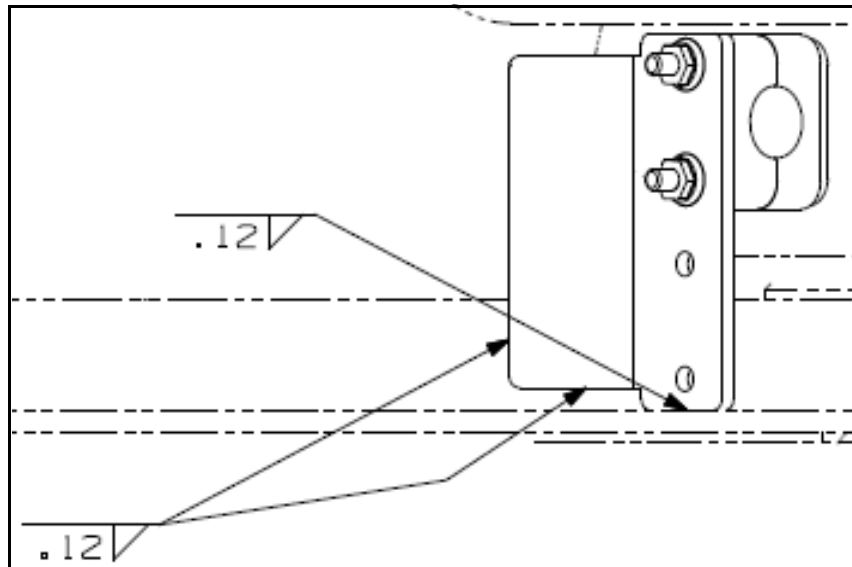

Figure 7. Clamp mount bracket weld symbols.
13. Weld the clamp mount bracket according to the weld symbol in Figure 7, using the following method,